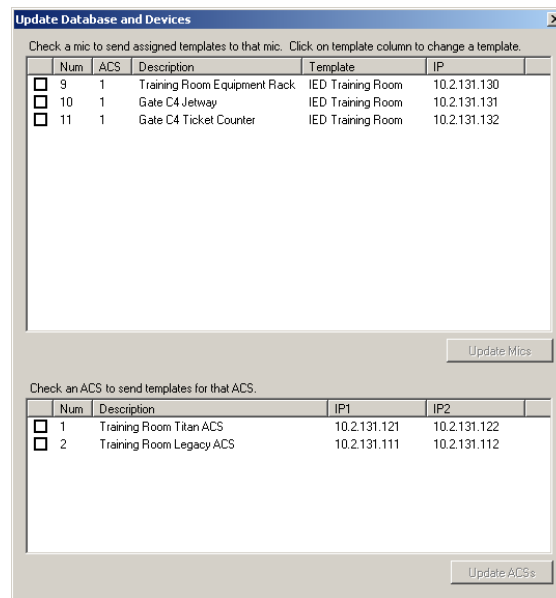

Figure 6-19: Update Database and Devices Window
1. Open the **Actions** menu and select the **Update Database and Devices** item. This will open the bulk update window as shown in Figure 6-19. The upper window lists all mic stations available in the system.
1. Open the **Actions** menu and select the **Update Database and Devices** item. This will open the bulk update window as shown in Figure 6-19. The lower window lists the announcement controllers available in the system.